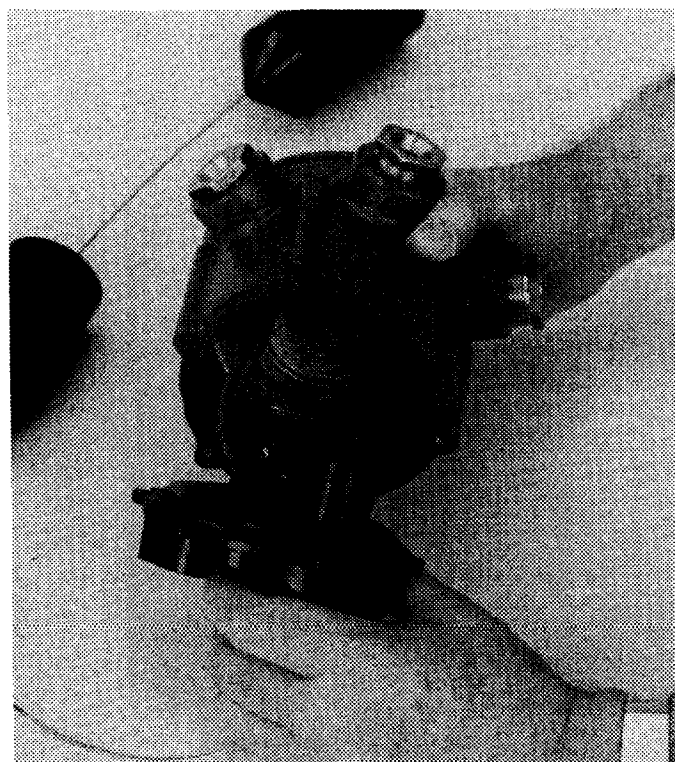

FIG. 8
4. Remove switch and base from aluminum housing. Fig 8.